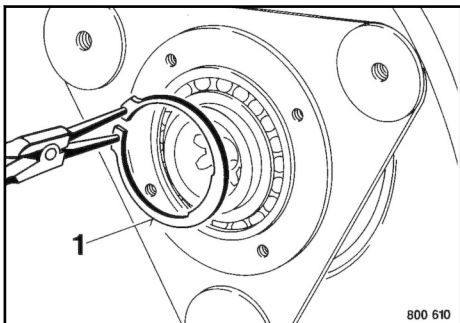

Fig. 246
3. Insert circlip 1 ↪ Fig. 246 into the groove in the bearing flange and check the correct fit.